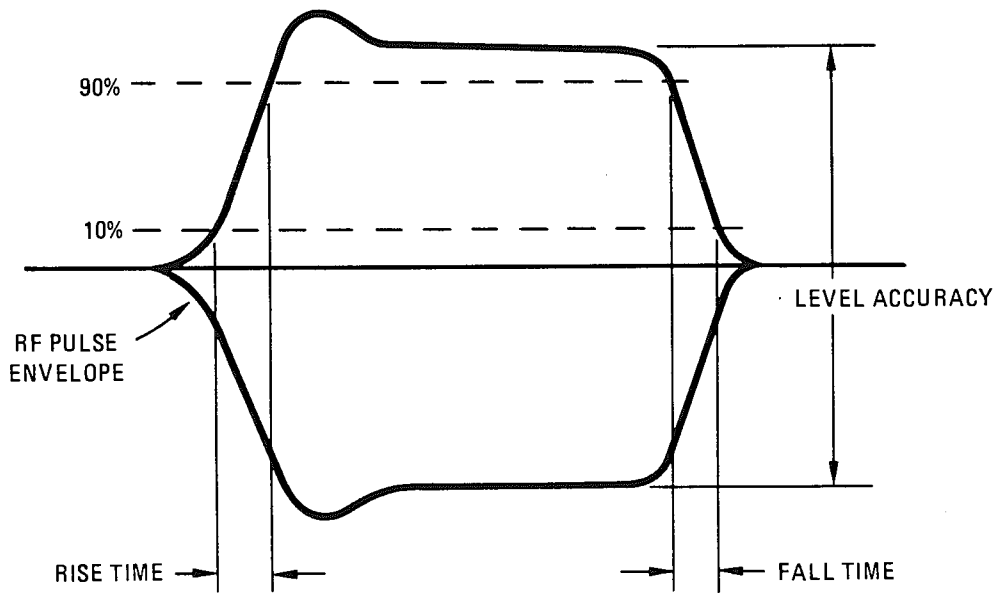

Figure 4-23. Pulse Measurements
3. Adjust oscilloscope to display the RF pulse envelope. Readjust the pulse width for 10 μ s (measured at 50% amplitude points) and measure the rise and fall times (see Figure 4-23). Both should be less than 9 μ s (measured between 10% and 90% of the full pulse amplitude).